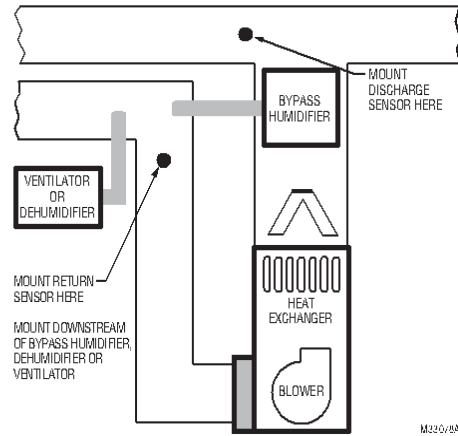

Fig. 4.
4. If a Bypass Humidifier is installed, the Discharge Air Temperature Sensor can be mounted downstream or upstream of the Bypass Humidifier. Mounting the sensor downstream of the Bypass Humidifier is the preferred location, because the air is mixed well. See Fig. 4–5.